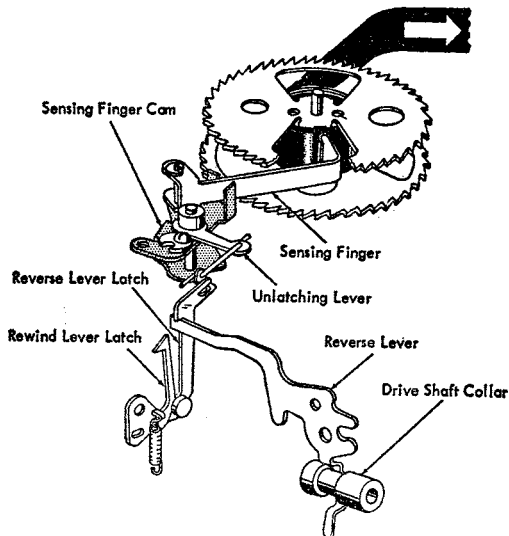

Figure 37. Ribbon Reverse, Left Spool Empty
Ribbon reverse takes place as follows: As the left ribbon spool empties the sensing finger engages a notch in the spool, rotating the sensing finger cam (Figure 37). This forces the unlatching lever to the rear and develops a pull on the wire link connected to the reverse-lever latch, unlatching the reverse lever. Unlatching the reverse lever allows it to rotate clockwise about its mounting and position the
finger is centered between the ribbon-spool flanges (Figure 37).
**17. LEFT REVERSING ECCENTRIC.** With the reverse lever latched and the left sensing finger resting against the ribbon spool hub, position the eccentric washer to just contact the unlatching lever (Figure 37).